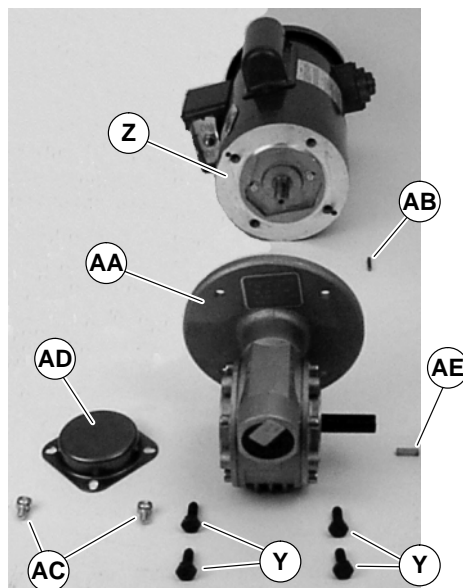

Figure 15
5. Remove four screws (Y of Figure 15). Detach motor (Z) from gear reducer (AA). Retain motor output shaft key (AB).
11. With key (J of Figure 15) in keyway, slide motor (Z) and gear reducer (AA) together. Install screws (Y) and tighten.